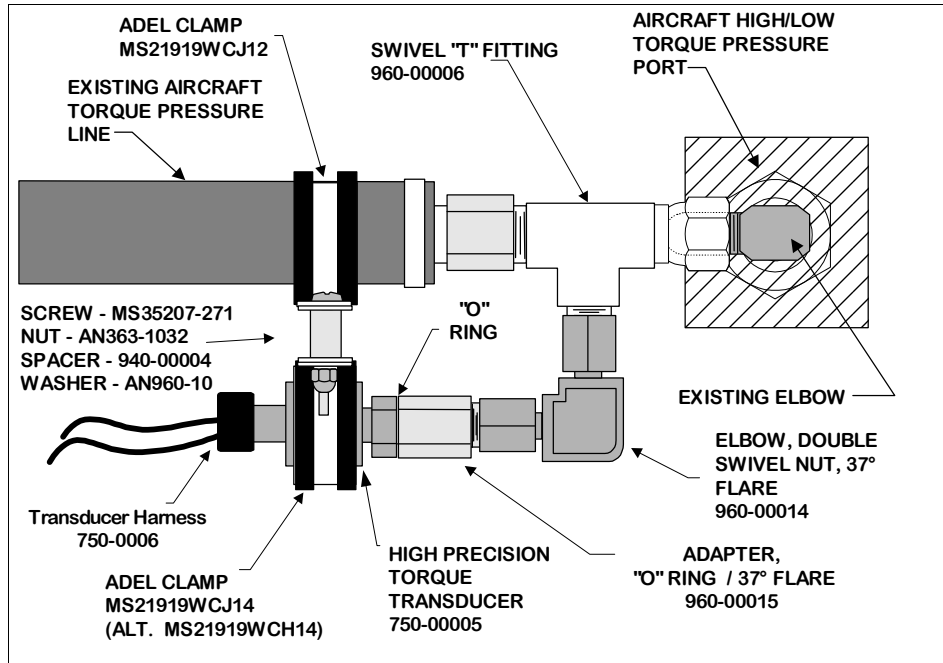

Figure C- 15: P&W Engine Services High Precision Torque Transducer Installation
The twin engine ADAS+ obtains the engine torque level by using (2) 0 – 100 PSIG, 0 – 5 volt transducers installed in the high and low pressure lines, Figure C- 15. Perform each procedure listed for each engine and check off the appropriate box.